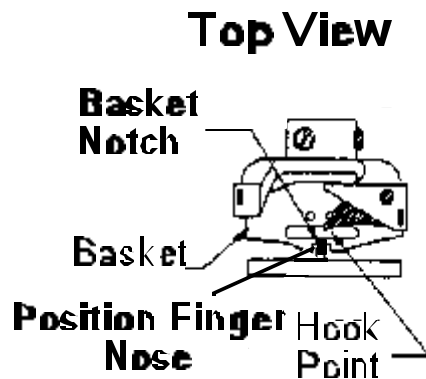

Figure 2
22. **Rotate** Hook Assembly until Basket Notch is aligned with Position Finger Nose. See *Figure 2*.